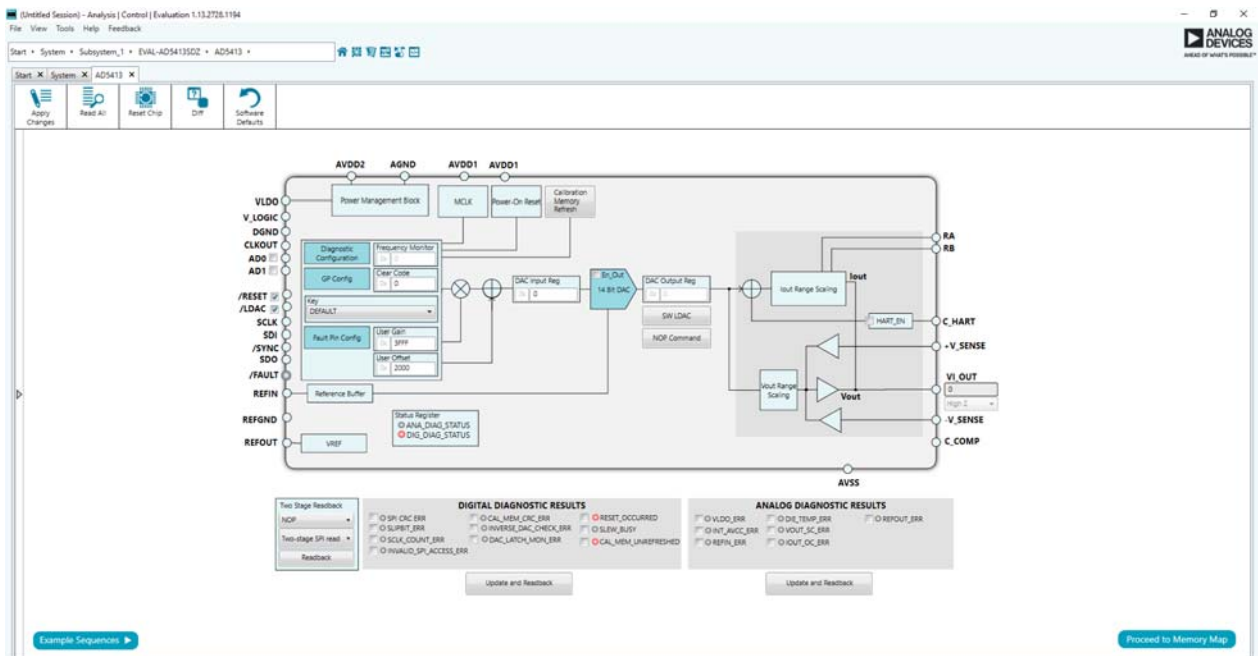

Figure 7. AD5413 Block Diagram in the ACE Software
8. Double-click **EVAL-AD5413SDZ** to open the **AD5413** block diagram (see Figure 7). The **INITIAL CONFIGURATION** window appears on the left side of the ACE window. Several register settings can be configured in this pane and are written to the device in the appropriate order. The **RESET_OCCURED** and **CAL_MEM_UNREFRESHED** LED indicators in the **DIGITAL DIAGNOSTIC RESULTS** section are illuminated red by default (see Figure 7).